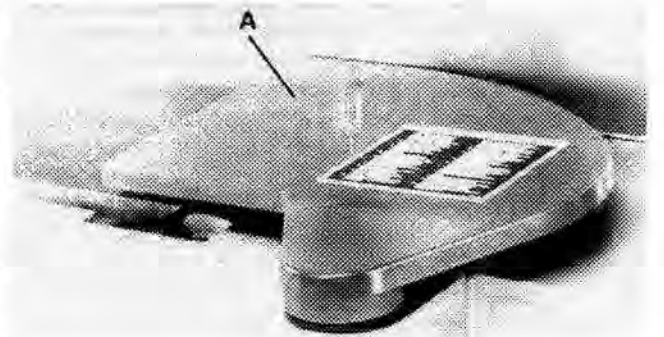

FIGURE 23
2. Remove set screw holding the cutterhead guard (A) Fig. 23, in position and remove cutterhead guard.